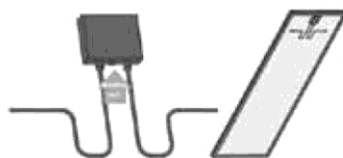

Fig.6
- » The J-Box must be on the higher side of the module when it is mounted (see Fig. 6).